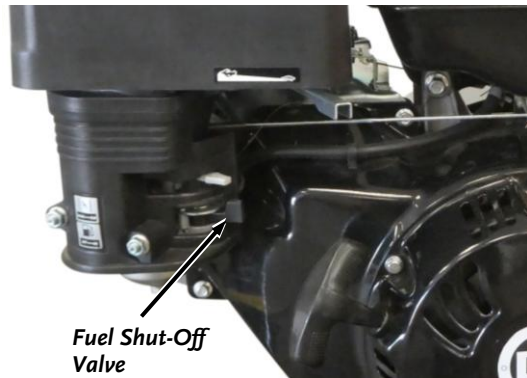

Figure 16
3. Ensure that the Fuel Shut-Off Valve is in the “ON” position (**Figure 16**).